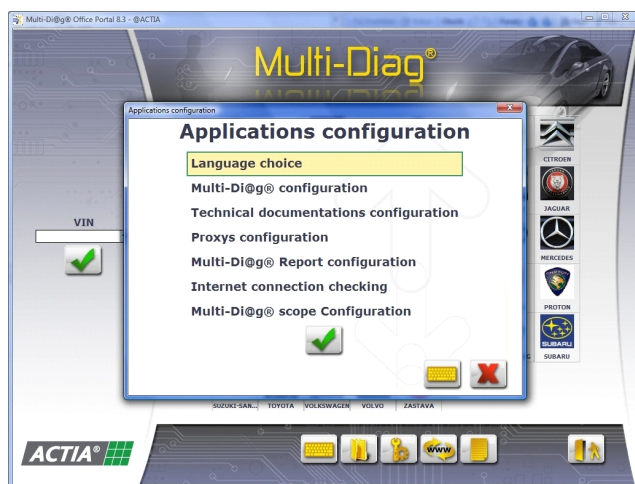

Fig. 26 – Configuration screen – basic parameters
Click the button (pos.1, Fig. 22) and the configuration screen appears (see Fig. 26).